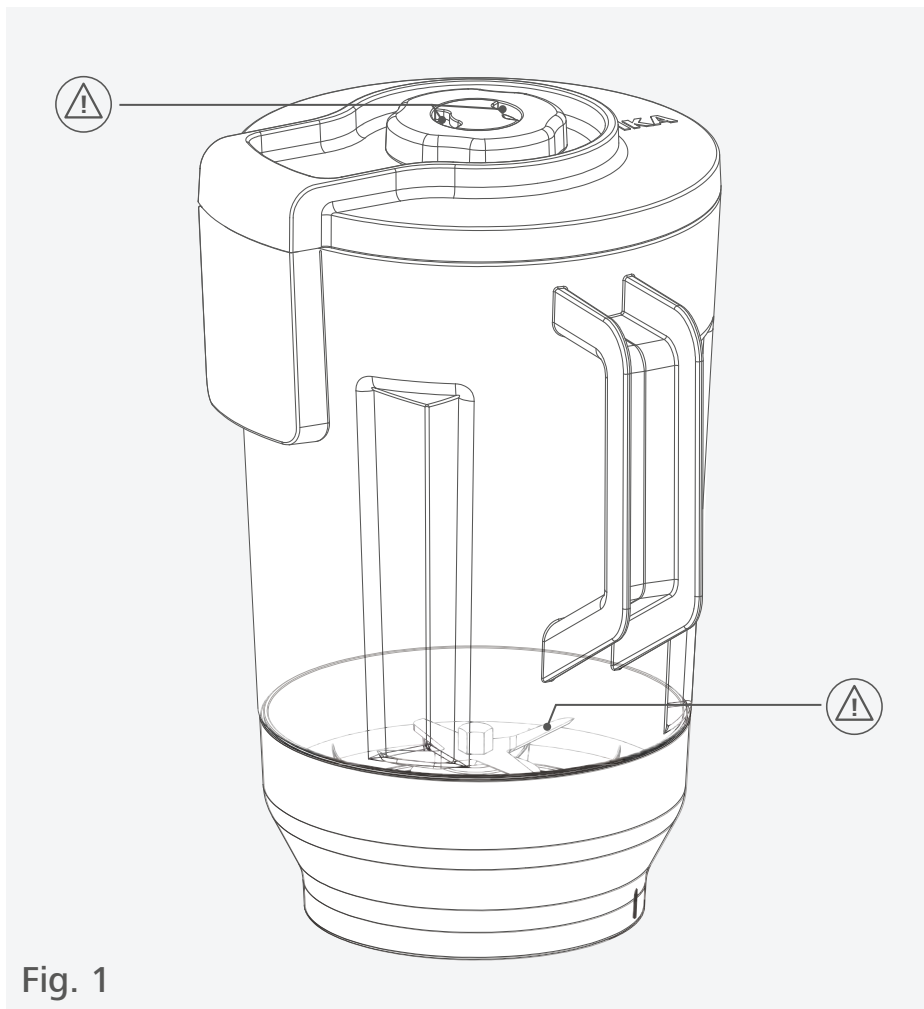

Fig. 1
- > Pay attention to the marked sites in Fig. 1.